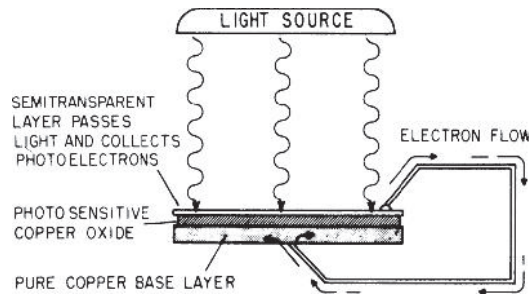

Fig. I-8 Photoelectric cell.
- **Light.** Electricity is produced when light strikes a photosensitive material. (The word “photo” means light.) Photoelectric cells are used in cameras, spacecraft, and radios (Fig. I-8).